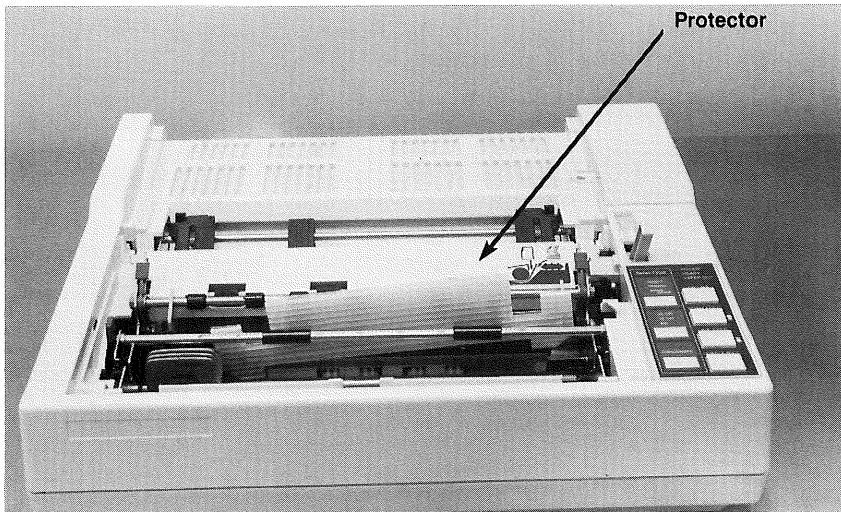

Figure A4.
4. Remove the protector for the print head. See Figure A4.